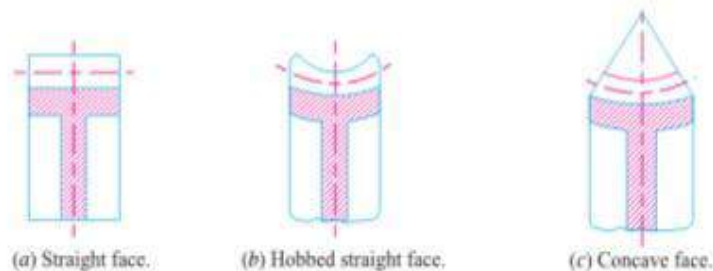

Figure 2: Types of worms gears.
1. Straight face worm gear, as shown in Fig. 2(a),
2. Hobbed straight face worm gear, as shown in Fig. 2(b), and
3. Concave face worm gear, as shown in Fig. 2(c).